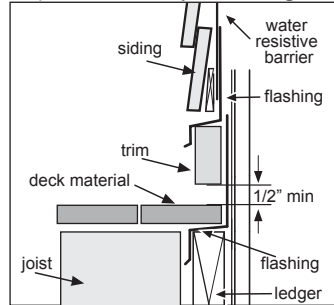

Figure 5
- Maintain a minimum 1/2" clearance between James Hardie trim products and roofs, decks, paths, steps and driveways (figs. 5 & 6).